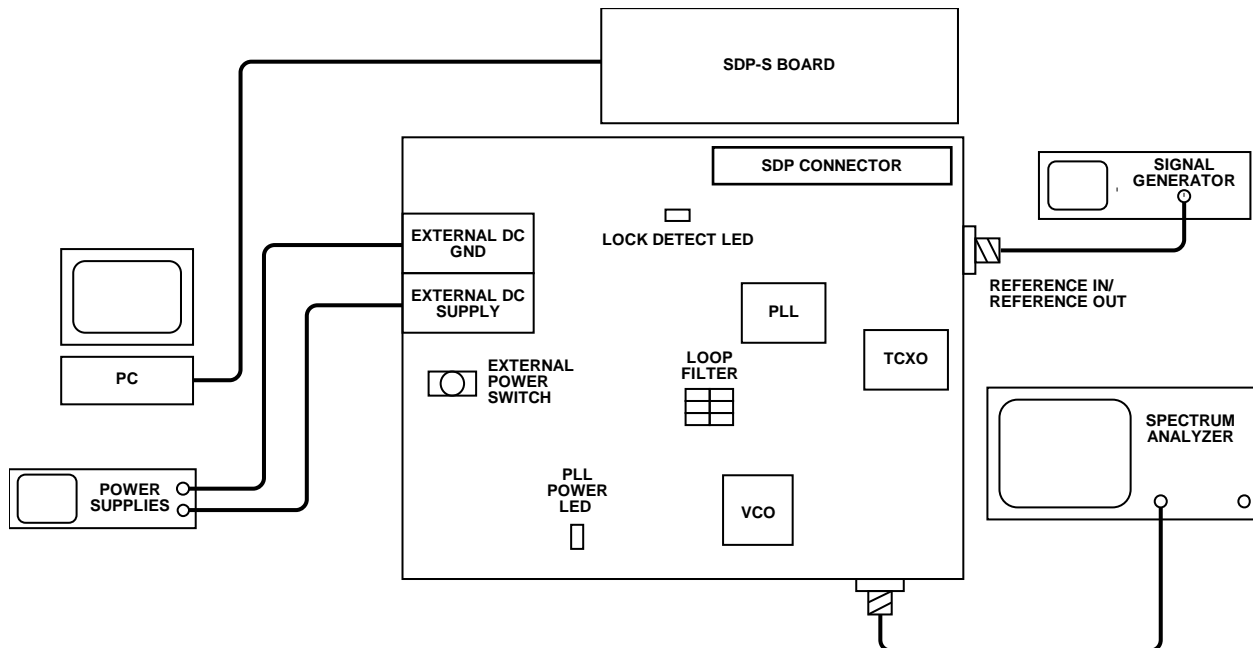

Figure 6. Typical Evaluation Setup
8. In the **Main Controls** panel, set the VCO center frequency, PFD frequency, and reference frequency. By default, VCO frequency is set to 1750.2 MHz (middle range of the Mini-Circuits ROS-1800+ VCO), and both reference frequency and PFD frequency are set to 25 MHz to match the frequency of the TCXO applied on board. The charge pump current should equal 2.5 mA. See Figure 6 for the suggested setup.